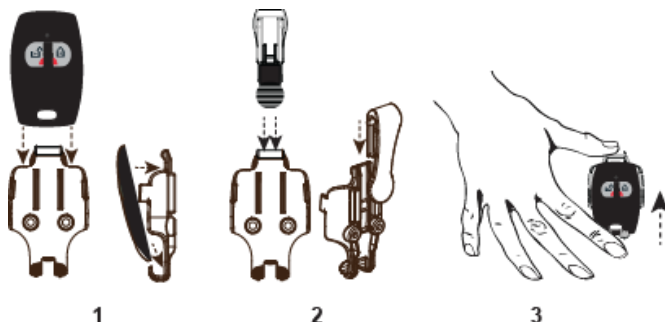

Figure 2 Attaching PB-101/102 to a Belt Clip
3. To remove the PB 101/102 from the holder, press down the top of the holder and push the pendant up with your fingers as illustrated in Figure 2.